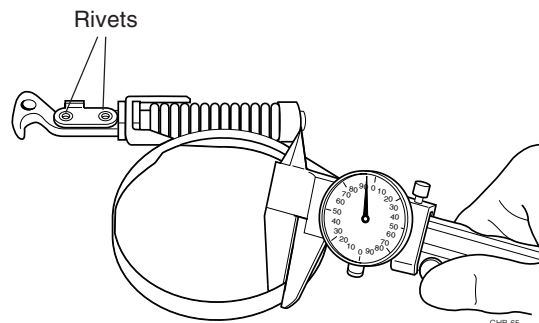

Figure 10.16 Check Band Thickness
- Inspect the brake band for proper thickness (Figure 10.16) and also for possible wear or “slotting” from the band supports on the cassette casting.